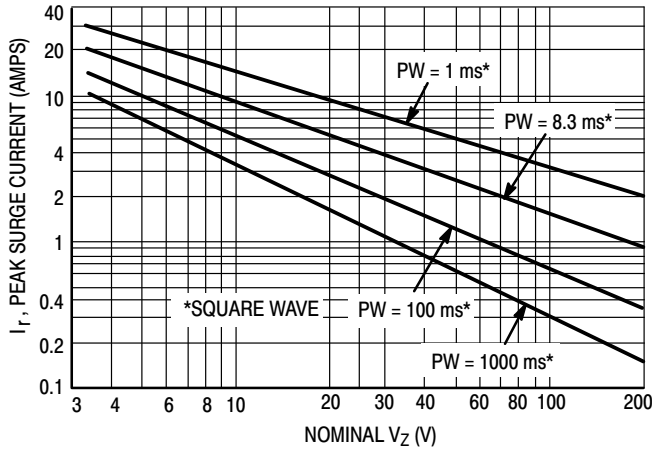
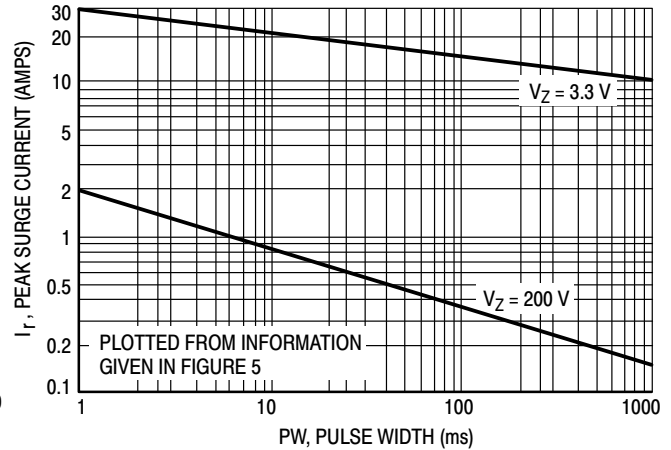

Figure 5. Maximum Non-Repetitive Surge Current
Figure 6. Peak Surge Current versus Pulse Width
- SURGE CURRENT (I_R):** Surge current is specified as the maximum allowable peak, non-recurrent square-wave current with a pulse width, PW, of 8.3 ms. The data given in Figure 5 may be used to find the maximum surge current for a square wave of any pulse width between 1 ms and 1000 ms by plotting the applicable points on logarithmic paper. Examples of this, using the 3.3 V and 200 V zener are shown in Figure 6. Mounting contact located as specified in Note 2 ($T_A = 25^\circ\text{C} + 8^\circ\text{C}, -2^\circ\text{C}$).
- SURGE CURRENT (I_R):** Surge current is specified as the maximum allowable peak, non-recurrent square-wave current with a pulse width, PW, of 8.3 ms. The data given in Figure 5 may be used to find the maximum surge current for a square wave of any pulse width between 1 ms and 1000 ms by plotting the applicable points on logarithmic paper. Examples of this, using the 3.3 V and 200 V zener are shown in Figure 6. Mounting contact located as specified in Note 7 ($T_A = 25^\circ\text{C} + 8^\circ\text{C}, -2^\circ\text{C}$).